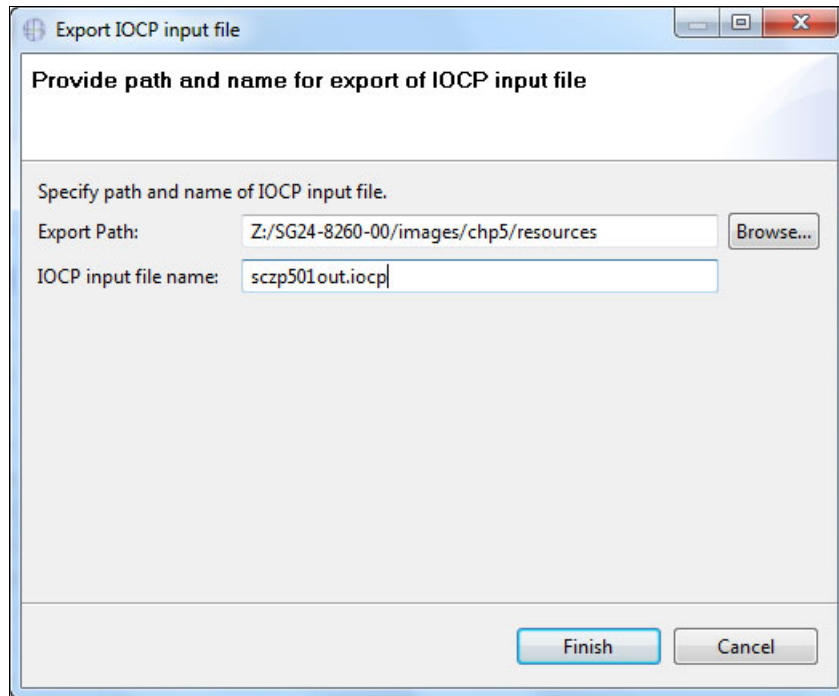

Figure 8-96 CMT - Export IOCP File
2. Enter the Export Path and IOCP Name for the IOCP output file and click **Finish** (Figure 8-96).